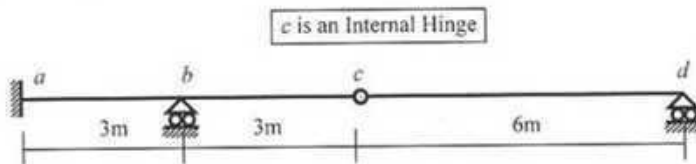

Fig. 5
7. Support  $a$  rotates 0.050 radian anticlockwise in the statically indeterminate beam  $abcd$  shown in Fig. 5.